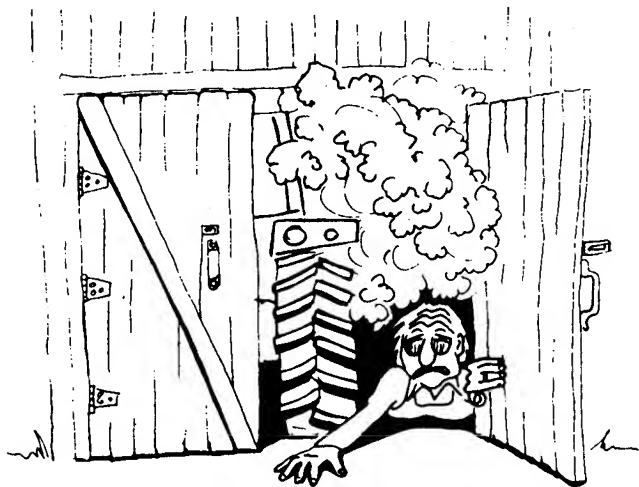

FIGURE 10.
3. Turn key to glo-plug position until glo-plug indicator is red (for required time, see instructions inside hood). Note: if engine is warm, step 3 may be bypassed. (See figure 10.)